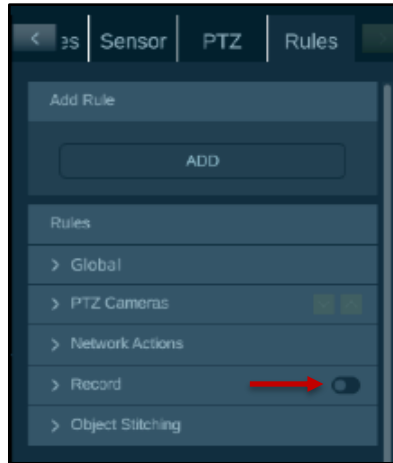

Figure 92. Record Toggle on Rules Tab
Event zones (not Exclusion or Inclusion zones) have the option of triggering a recording event based on the actions of a moving object that is tracked, that is, a trackable. If preferred, take the following steps to enable rule-based recording. These options are not changeable when a recording or playback event is in progress. See Figure 92. Record Toggle on Rules Tab.
2. Set the **Rules Recording** switch to OFF. See Figure 92. Record Toggle on Rules Tab.